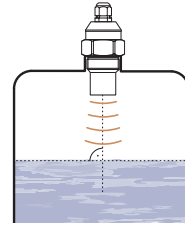

Fig. 1: Recommended installation in the tank
- a) Install the level meter in a **vertical position** into the upper lid of the tank (vessel) or reservoir using a lug, a fastening nut or a flange in such a way that the ULM axis is perpendicular to the level of the measured liquid (Fig. 1).